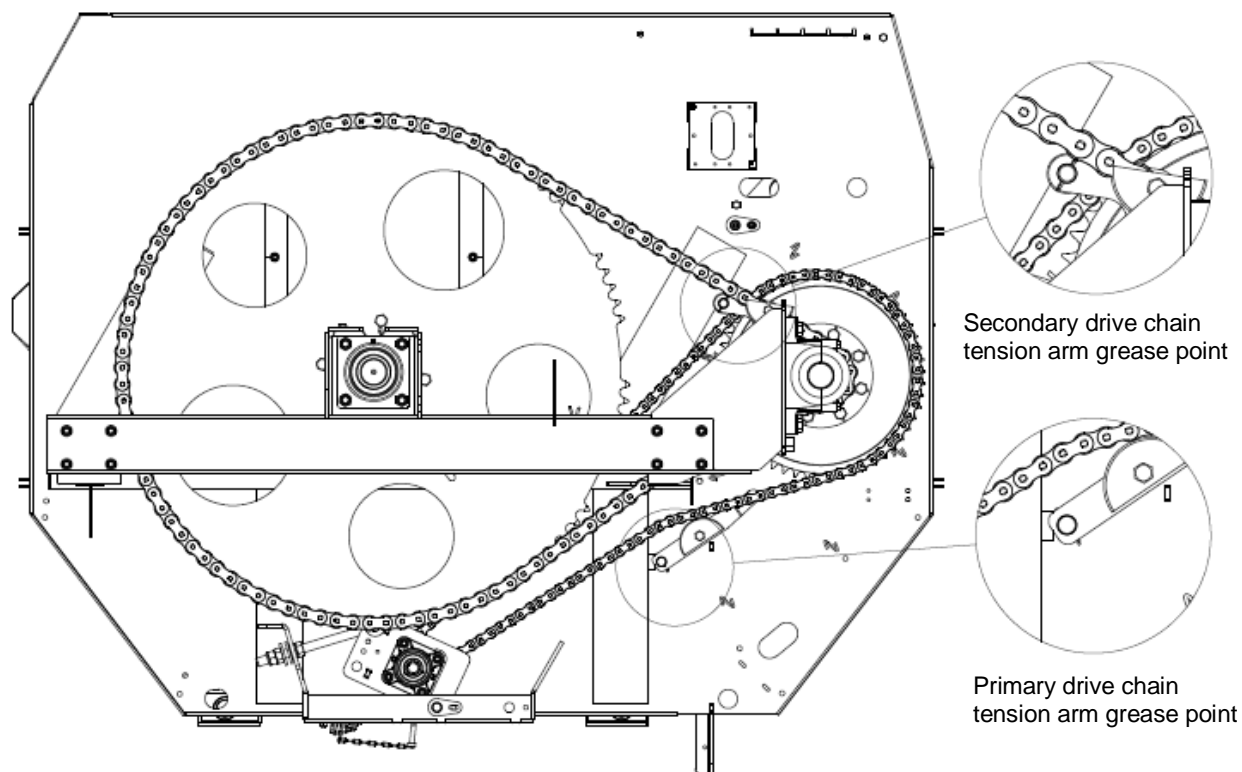

Figure 15: Tension arm grease points
- c. 2 grease fittings, 1 on the secondary chain tension arm and 1 on the primary chain tension arm (see Figure 15)